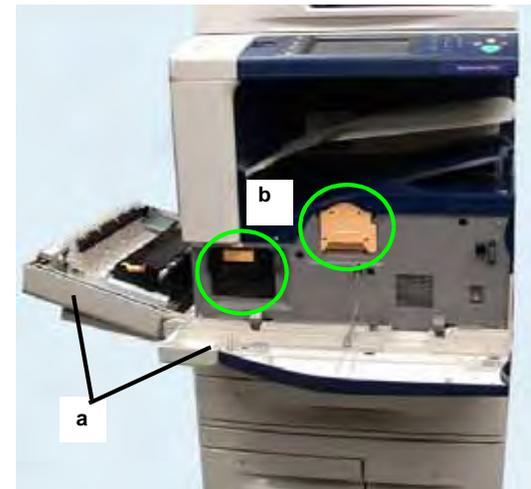

Figure 2 Removals
3. Perform the following (Figure 2).